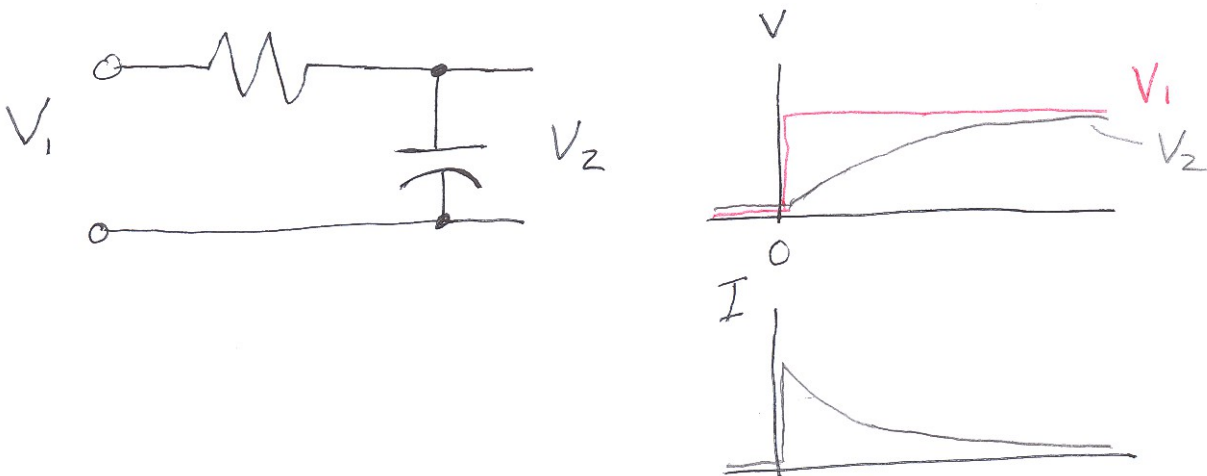

Figure 2. Resistor-Capacitor (RC) Voltage and Current Character.
In this case, we can see that the flow will start out high then slow as the tank fills. In a similar fashion, the RC circuit, in Figure 2, will start charging up the capacitor quickly at first (high current). Then as the capacitor charges up and its voltage rises, the current drops off and the charging slows.
4) Consider Timer1 with 500 μ s period, 10K Ω resistor, 0.2 μ F capacitor, and a quickly changing input. Notice the slow change time. The response to a new input has a similar shape to the response of an RC circuit to a step change input, shown in Figure 2.